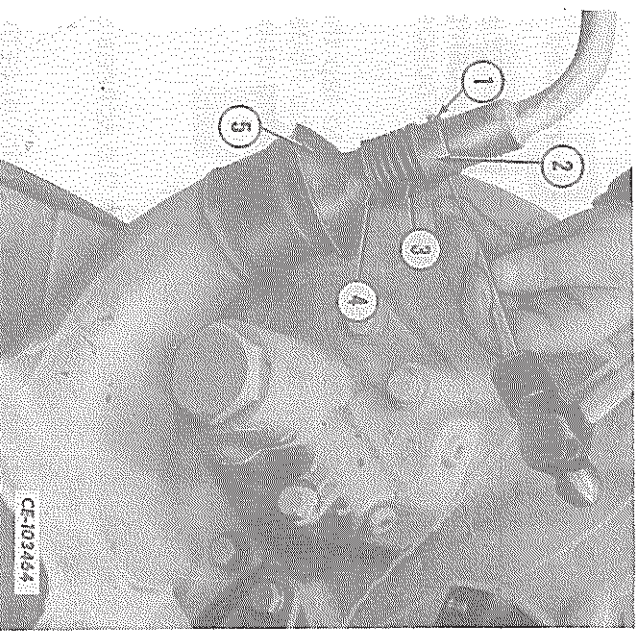

FIG. 14 — Removing the Spring Stop Rivet
2. Remove the rivet (1, Fig. 14) securing the spring stop (2) to the shift lever. Remove the spring stop, spring (3), spring washer (4) and swivel cap (5) from the shift lever.